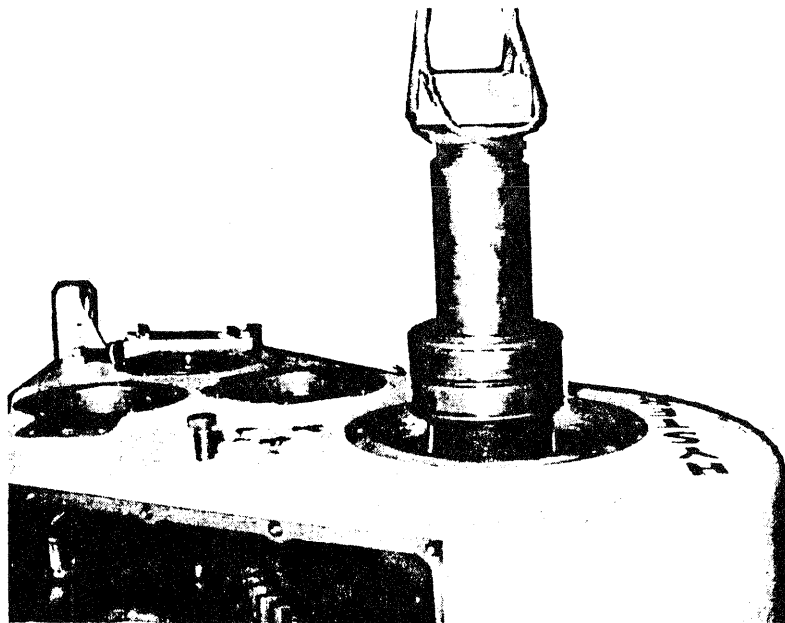

Figure 18
6. Pull shaft straight up as shown in Figure 18.